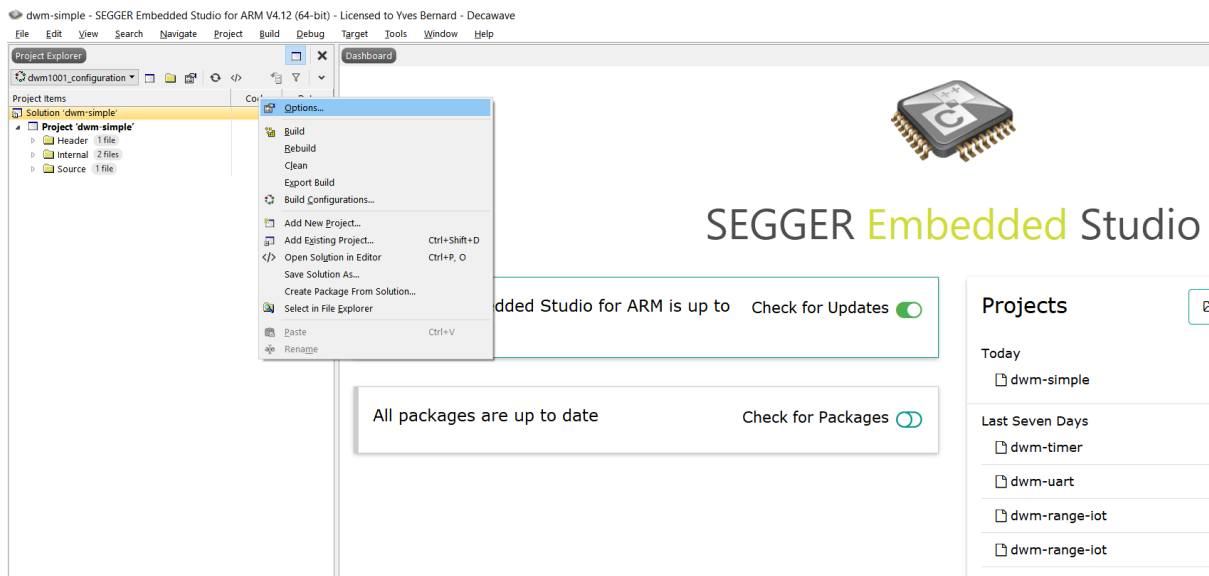

Figure 9: SES - Opening solution configuration menu
1. Right click on the solution name in the project item section, on the left of the main SES window. The solution name is at the top of the project structure: dwm-simple. See Figure 9.